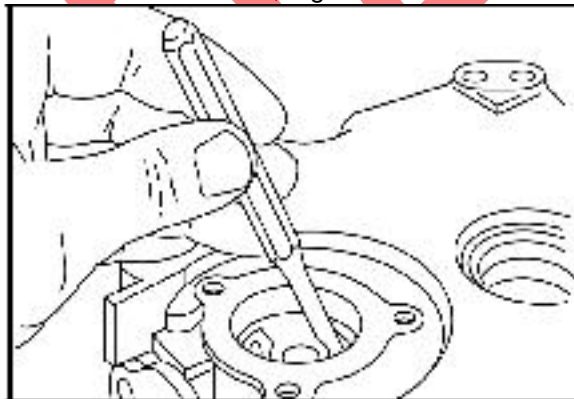

Fig. 13
1. Drive out screen, Fig. 13 Do not reuse.